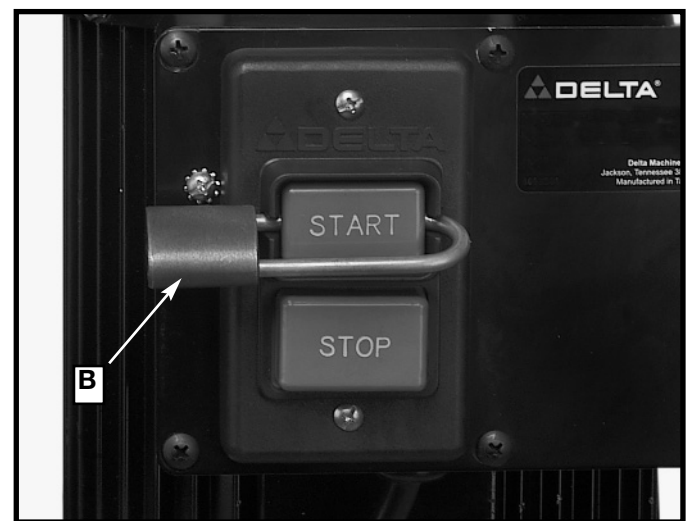

Fig. 15
IMPORTANT: When the machine is not in use, the “START” button should be locked to prevent unauthorized use, using a padlock (B) Fig. 15 with a 3/16" diameter shackle.